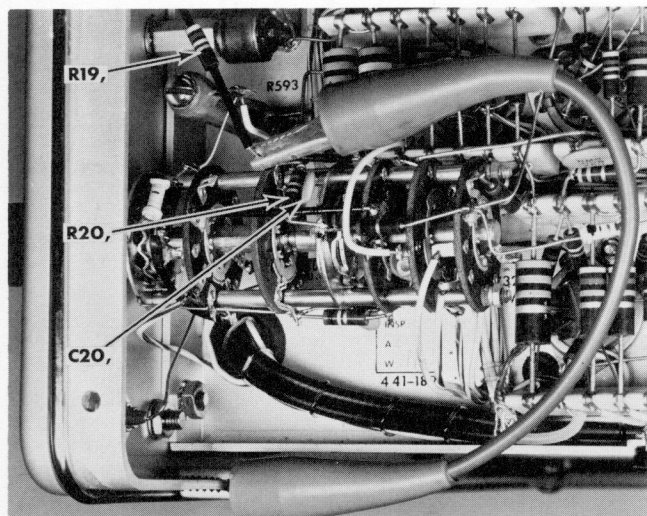

Fig. 6-4. Grounding the junction of R19, R20 and C20 to simplify the adjustment of the triggering controls.
c. Connect a jumper strap (clip lead) between ground and the junction of R19, C20 and R20 (Fig. 6-4).